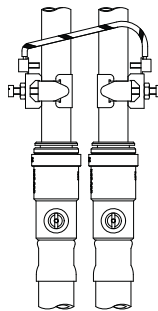

Fig. 10
- 4.15 **Adjacent pipes:** Adjacent suction and delivery pipes should be fitted with earthing clamps in accordance with current regulations (Fig. 10).